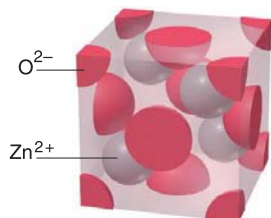

Figure P12.72
12.72 Zinc oxide adopts the zinc blende crystal structure (Figure P12.72). How many Zn^{2+} ions are in the ZnO unit cell?
12.74 Zinc selenide ($ZnSe$) crystallizes in the zinc blende structure (see Figure P12.72) and has a density of 5.42 g/cm^3 .